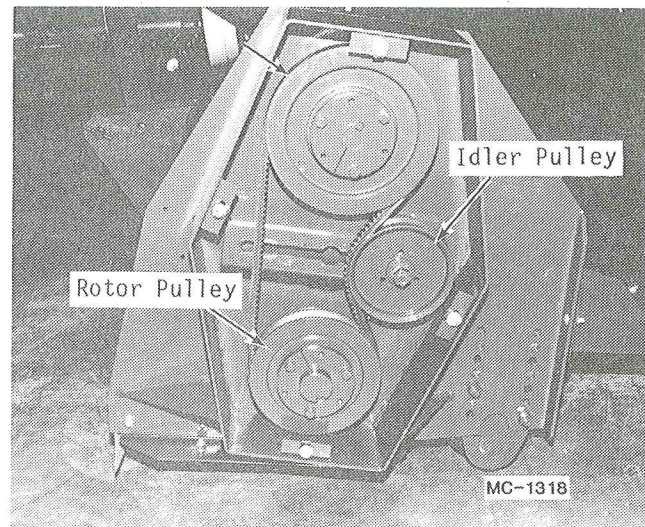

Figure 15
2. Remove the three mounting capscrews in the bushing. (See Figure 15.) Thread the capscrews into the three jackscrew holes in the bushing. Tighten the three capscrews progressively and evenly until the bushing is loose on the shaft.